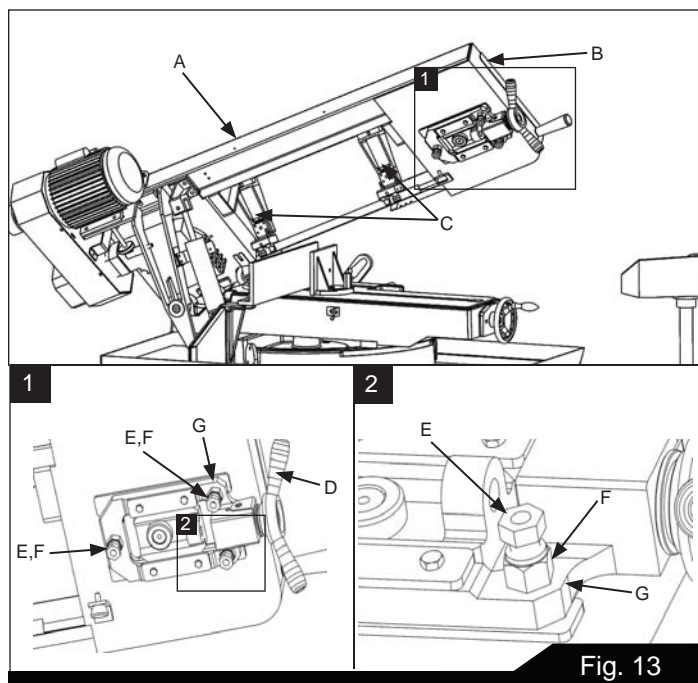

Fig. 13
Refer to Figures 13 and 14.
Note: As a general rule, make the same adjustment to the two adjustment screws on the right (F, Fig. 13). The single adjustment on the left is independent.
10. Turn the *adjustment screws* (F) slightly in the counter-clockwise direction. This ensures that the blade is not touching the shoulder of the wheel.
12. Tighten the *hex locking screws* (E).
13. Install the *blade-guide bearing bracket assemblies* (C, Fig. 13).